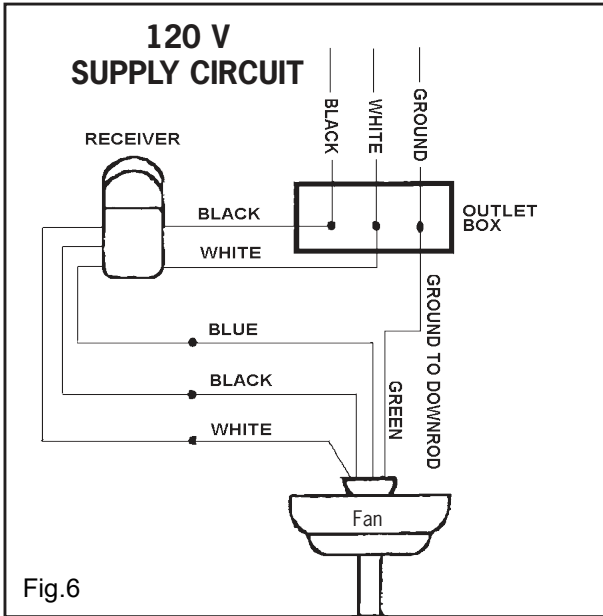

Fig.6
- Make the following wire connections to the receiver unit (see fig. 6) using the wire nuts supplied.